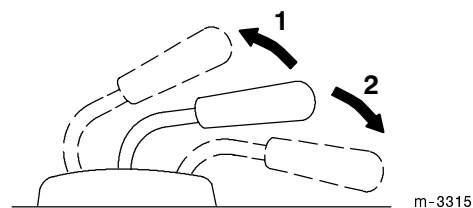

Figure 20
2. Pull the lift lever UP to raise the attachment (Fig. 20). This will lift and hold the attachment in the raised position.
2. Push the lift lever DOWN to lower the attachment (Fig. 20).